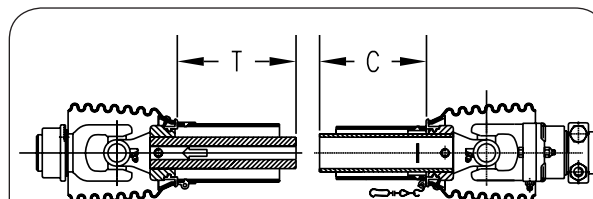

FIG. 4-52
2. Pull apart PTO telescoping shaft ends and measure lengths "T" & "C" (Fig. 4-52)